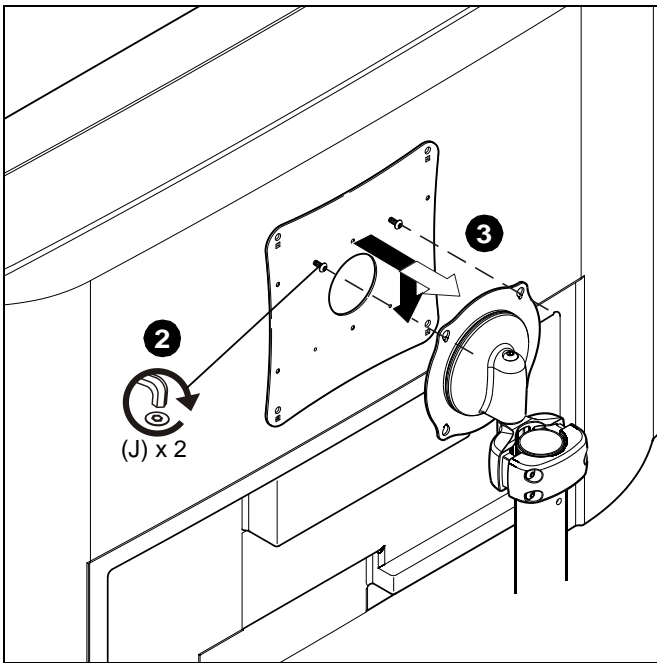

Figure 5
2. Start two button head security screws (J) into top mounting holes (100 x 100) in interface bracket. (See Figure 5)
3. Align two screws in interface bracket with upper mounting holes in mounting plate and lower display until screws are seated in lower area of teardrop mounting holes. (See Figure 5)